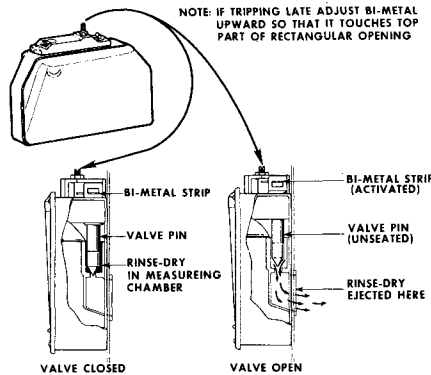

Figure 12 - Electric Dispenser - Door open and closed.
- Trips late - If the rinse fluid is noticed on the door when the door is opened to unload the dishwasher at the end of the cycle, the dispenser is tripping during the pump-out of the final rinse and is called a late tripper. Adjust the bimetal so it (when cold) almost touches the top of the rectangular opening in the valve. (See figure 12). If this doesn't work - change entire assembly.